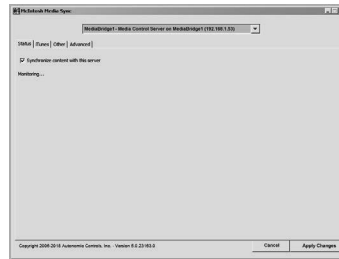

Figure 57
7. Currently on the Computer Screen the STATUS Tab should be displayed. Refer to figure 57.